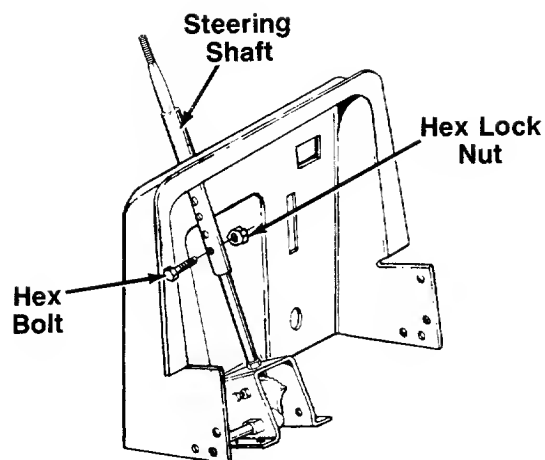

FIGURE 5.—Models 723, 728, 733, 738, 743, 748, 753 and 758
1. **Models 723, 728, 733, 738, 743, 748, 753 and 758 only:** There are four height positions for the steering wheel. For shipping purposes, the steering shaft is assembled in the lowest position. Lift the hood of the tractor. Remove the hex bolt and hex lock nut on the steering shaft. Raise the shaft to desired position and secure with hex bolt and hex lock nut. See figure 5.